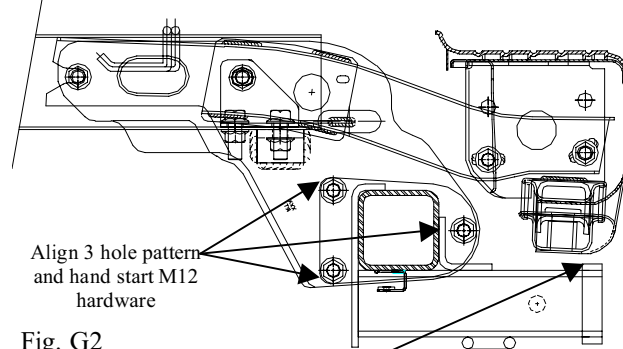

Fig. G2
- ➡ 2. Align 3-hole pattern on hitch sub-assembly and receiver hitch mounting bracket and hand start three (3) M12 bolts and three (3) M12 nuts per side (provided in hardware kit). (Fig. G2)
- ⚠ 3. Hitch should not contact bumper shell. (Fig. G2)